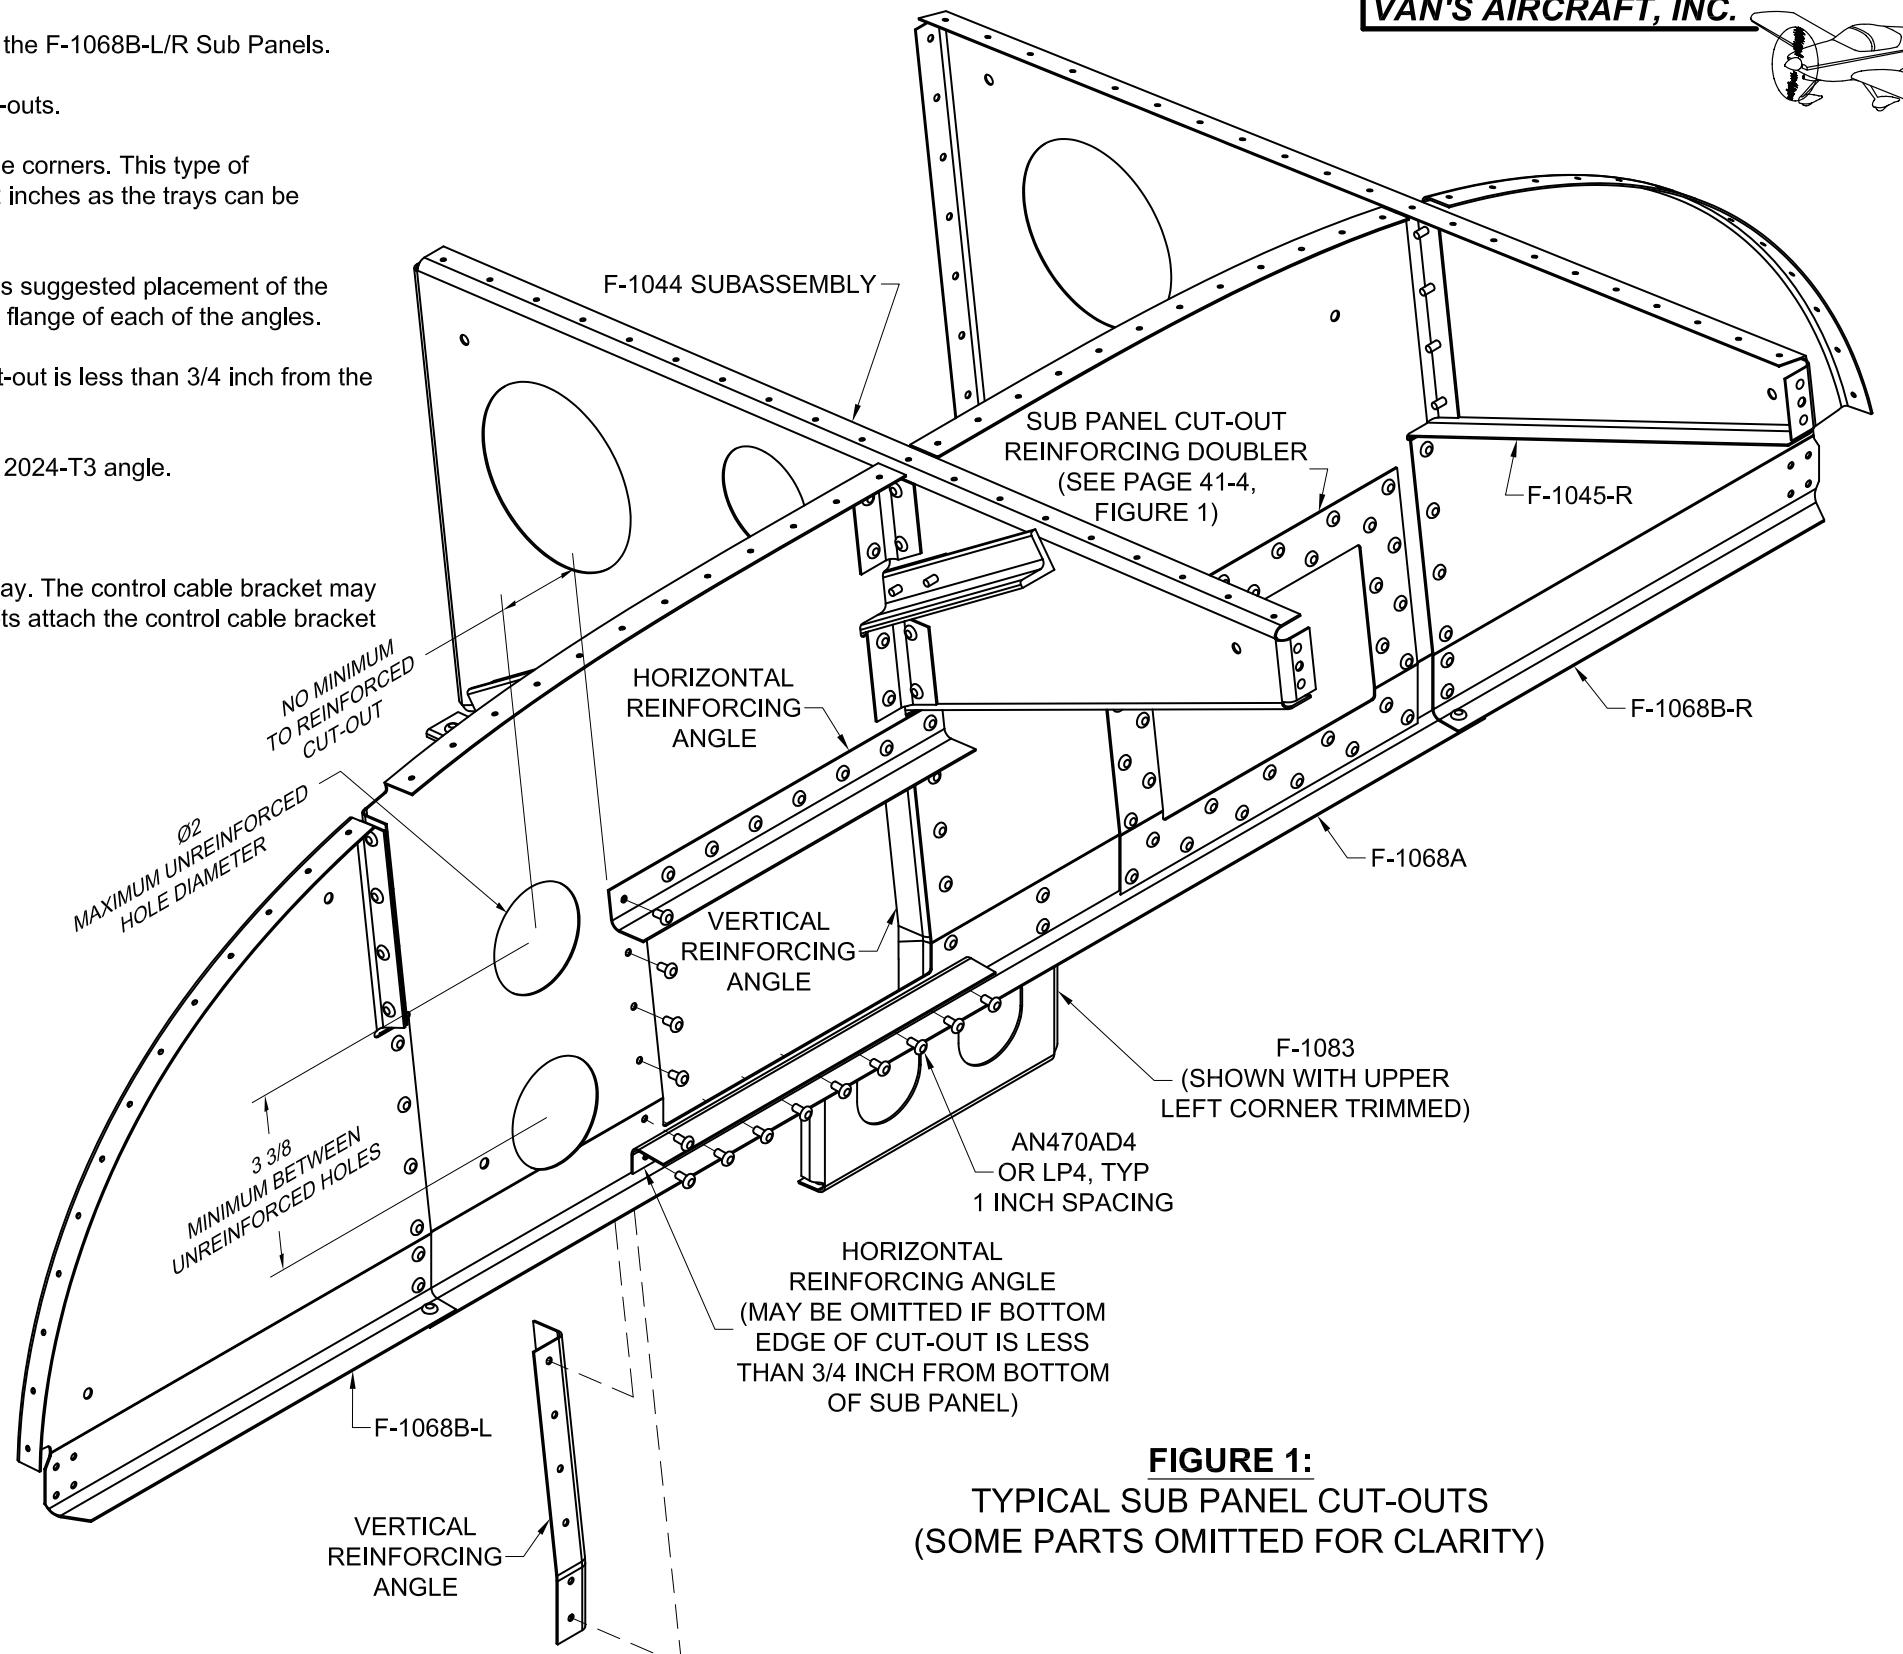

FIGURE 1:
Step 2: Figure 1 shows the F-1083 Control Cable Bracket with the upper left corner trimmed away. The control cable bracket may be trimmed as required to clear cut-outs in the F-1068A Sub Panel so long as at least three rivets attach the control cable bracket to the sub panel.